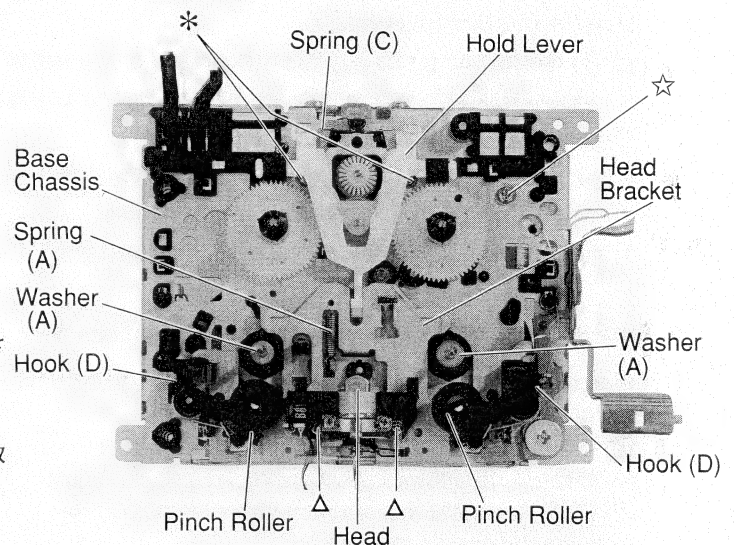

Figure 18
- (2) Remove the hook (B) as shown in Figure 18.
3. コントロール基板 (4) の取り外し方
- (1) After removal of two flywheels, remove two hook (C) as shown in Figure 18.
4. コントロール基板 (5) の取り外し方
- (1) After removal of two flywheels, remove two pinch rollers by removing two hooks (D) as shown in Figure 18.
- (2) Remove the head bracket, by removing a spring and a screw marked "□" as shown in Figures 18 and 19.
- (6) Remove the hold lever by removing a spring (C) as shown in Figure 18.
- (7) Remove two screws marked "*" as shown in Figure 18.
- (1) After removal of the play arm, remove a screw marked "☆" as shown in Figure 18.